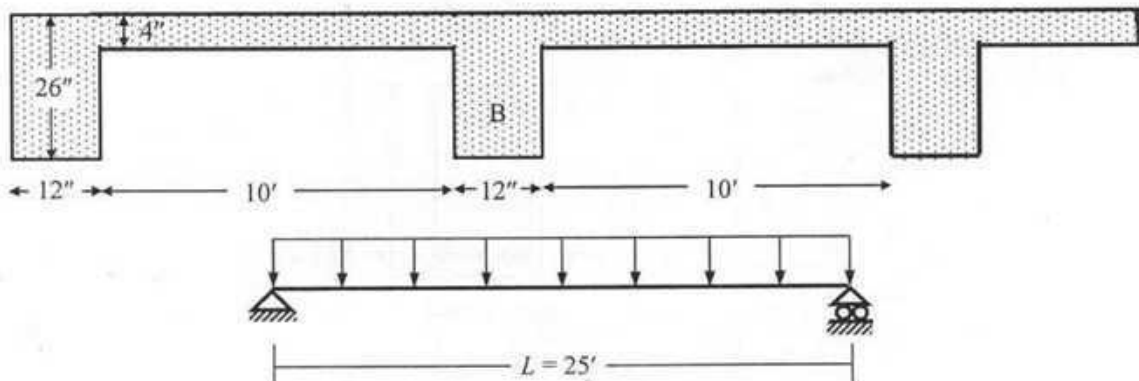

Fig. 5
9. A floor slab 4 inch thick is supported by reinforced concrete beams, 11' c/c, which together with slab acts as T-beams (see Fig.5). The slab supports a service live load of 150 psf and a superimposed dead load of 50 psf. The supporting beams have span of 25' (simply supported). Design the beam 'B' (with sketch) using WSD method.